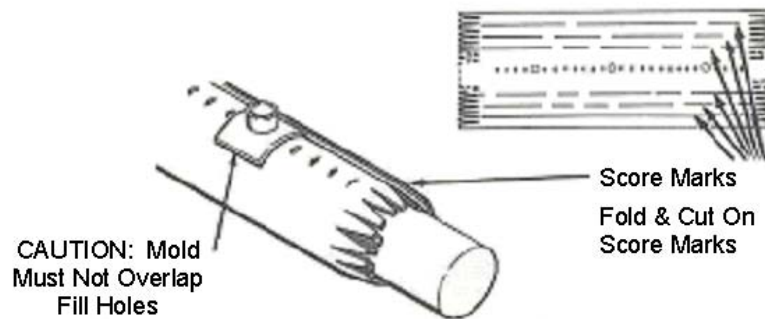

Figure 10
2. On small cables, where mold overlaps mold fill-holes, reduce mold width by folding, then cutting on appropriate score marks. (Figure 10)